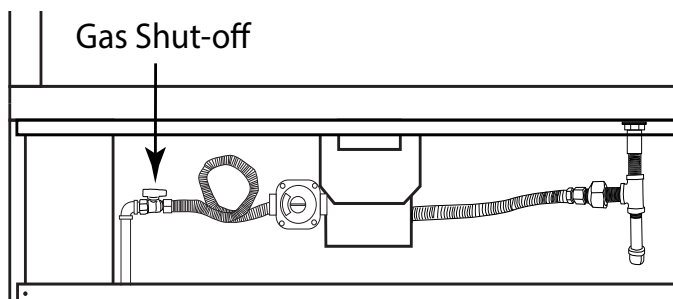

Figure 1 - Close up view of inlet gas connection with shutoff valve
GAS LINE: The gas line must have a predetermined location to enable it to be installed. *Figure 1* shows one example of an inlet gas line with a gas shut off at the fireplace. This allows a technician to shut the inlet gas supply OFF and remove the burner for servicing. **It is imperative that the flex line from the gas shutoff be long enough to lift out burner pan for service.** Ensure you follow the local and state gas codes per your installation.
3. The primary gas shutoff (supplied) will require a 1/2" male flared fitting to enable connection of the stainless steel flex gas line supplied with the fireplace (*See Figure 1, Page 5*).
NOTE: Preparation for the LED lighting and the inlet gas line must be planned before the fireplace is installed. See **Page 5, Figure 1** for inlet gasline and **Page 15** for LED lighting.